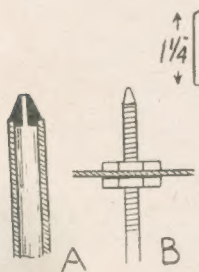

Fig. 1—The jet tube
A jet must be fitted to the top (threaded portion) of the tube. Those fortunate readers who own a lathe could turn one up from a piece of brass rod and sweat it in the tube. A $\frac{1}{16}$ in. hole should be drilled through this for the spray. However, the majority of readers are not so lucky as to possess a metal-turning lathe, so for their benefit a more simple form of jet is shown at Fig. 1 (A) made as follows.